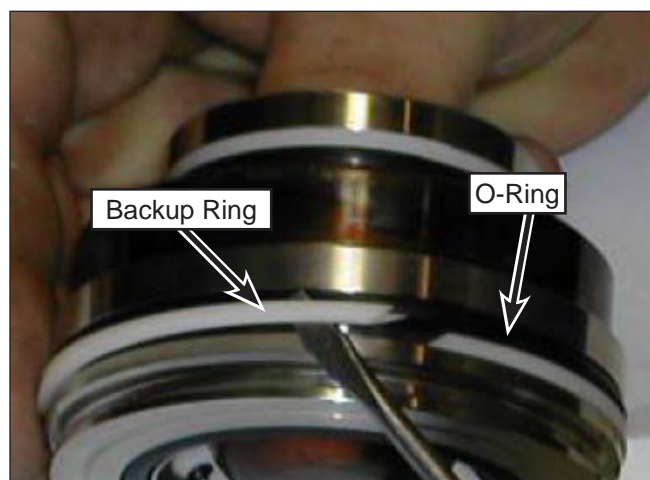

Figure 73: Backup Ring and O-Ring Removal.
2. Locate the slits in the two white backup rings and carefully remove the rings. Remove the companion O-rings, as well (Figure 73). Discard the O-rings and backup rings.